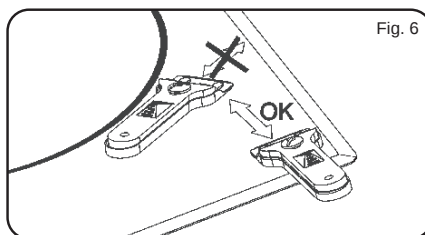

Fig. 6
- If you use the spatula incorrectly, the blade may break. If this happens, do not try to remove the piece with your hands, use pliers or a knife with a thin blade carefully. (See Fig. 6)